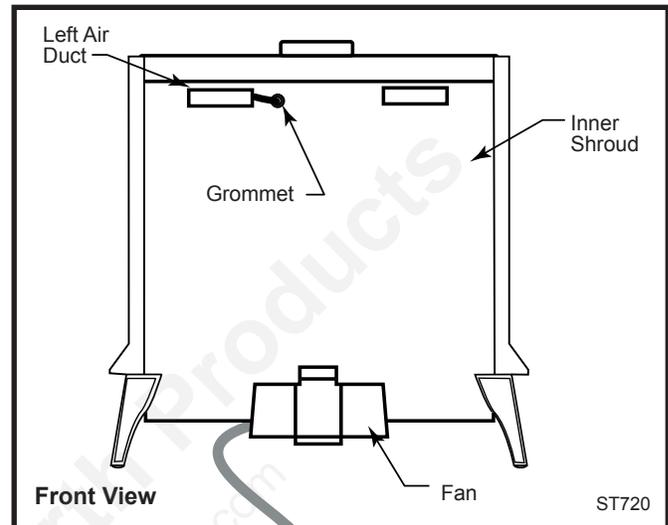

Fig. 10 Attach snapstat wire assembly to inside of inner shroud with clamp screws.
5. Place the grommet provided in the manual bag assembly on the inner shroud. Run the snapstat extension assembly leads through the grommet toward the firebox. (Fig. 10)